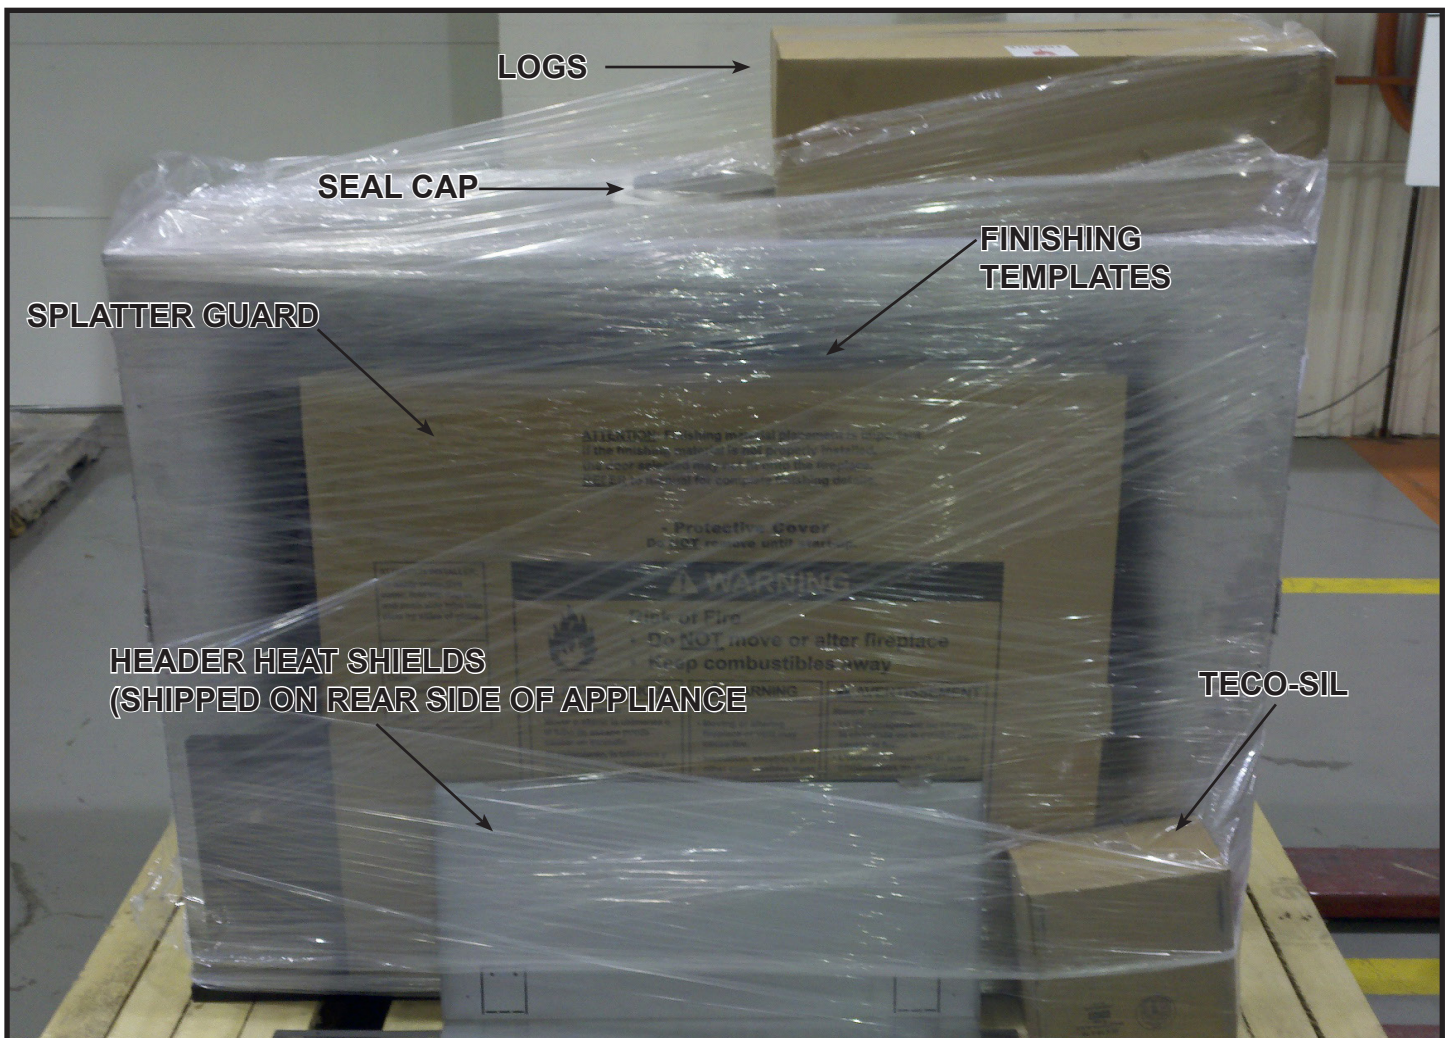

Figure 6.1 Shipping Location of Components
1. Remove shrink wrap from appliance. Figure 6.1 shows the shipping location of the seal cap and heat shields (Section 6), splatter guard and finishing templates (Section 10), and the logs (Section 11).
- Position and install heat shields by securing two screws in each heat shield. See Figure 6.1 for shipping location of heat shields. The heat shield screws can be found pre-installed on the top of the appliance.